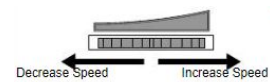

Fig. 6
1. To reduce the speed rotate the variable speed dial by turning it to the left (Fig.6).
2. To increase the speed rotate the variable speed dial by turning it to the right (Fig.6.)